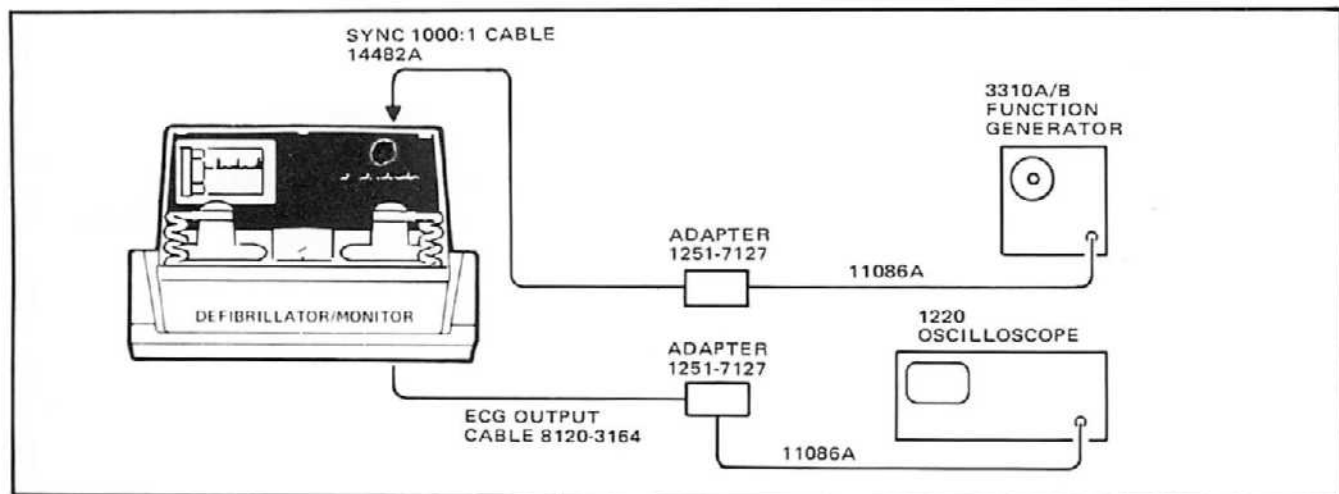

Figure 3-12A. ECG Amplifier Gain and Frequency Response Test Setup.
1. Connect the test equipment as shown in Figure 3-12A.
Output Level - 1 V p-p (measure with the oscilloscope at the output of the function generator while the function generator is connected to the 1000:1 divider circuit. Then reconnect the oscilloscope as shown in Figure 3-12A.